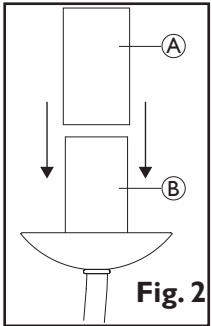

Fig. 2
Place candle drip (X) over lampholders (Y) (see Figure 2)